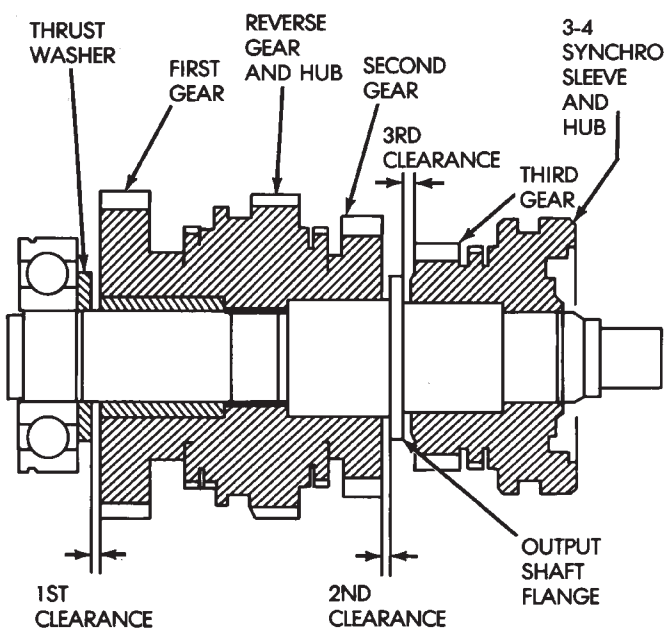

Fig. 62 Checking Output Shaft Gear Thrust Clearance
(1) Measure thrust clearance of output shaft first, second and third gears with feeler gauge (Fig. 62).
- (2) If first gear thrust clearance is incorrect, replace gear and thrust washer. **If second or third gear clearance is incorrect, either gear and bearing, or out-**
- (3) Press fifth gear and rear bearing off rear of output shaft.
- (4) Remove thrust washer, pin, and first gear and bearing (Fig. 62).
If shaft flange thickness is OK but previously measured second/third gear thrust clearance was incorrect (Fig. 62), replace the necessary gear and needle bearing as an assembly.